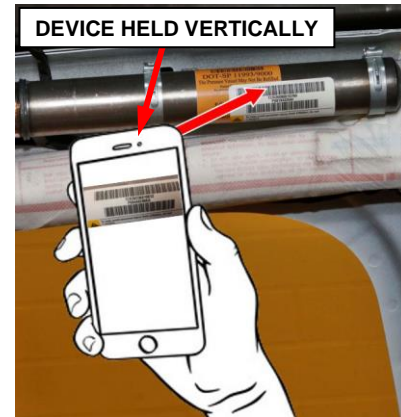

Figure 62 – Scan Barcode
- **Method 1:** Using a smartphone or tablet held vertically, click on the barcode scanner icon (Figure 63) to open the barcode scan function. Ensure the device camera is enabled and device is held vertically. Aim the camera directly at the SABIC traceability number barcode as shown in (Figure 62). The barcode scanner will automatically record the barcode and populate the traceability number entry field (Figure 63). Scan the barcodes for the left side and right side SABIC inflators.